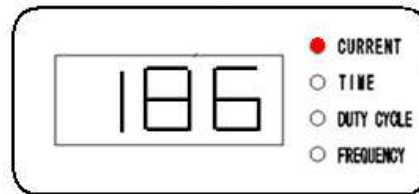

Fig. 4-3-15: Digital displayer
⑥
It is used for displaying the preset or actual parameter in ③, and the corresponding indicator will light up. For example: if the preset current is 186A, the digital displayer is as shown in Fig. 4-3-15: